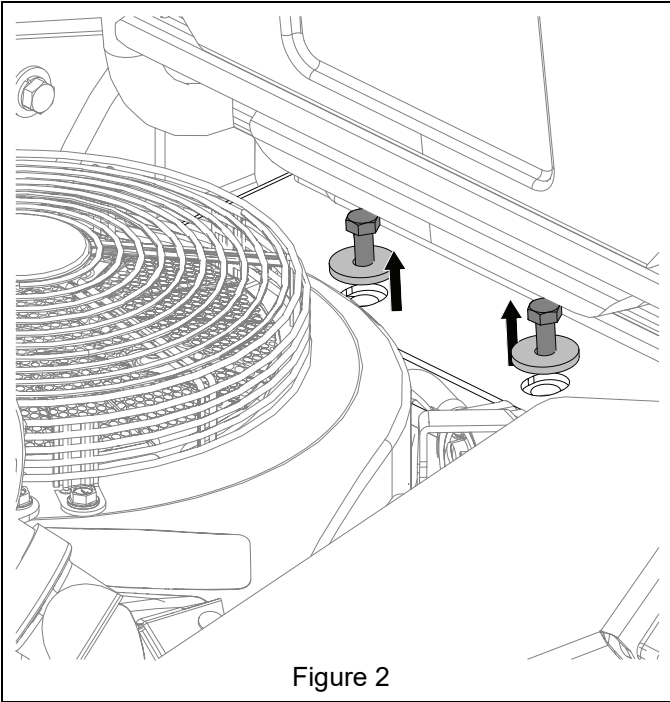

Figure 2
1. Remove and retain two 5/16" x 1" hex bolts and two flat washers retaining seat plate assembly at back of operator's seat. See Figure 2.